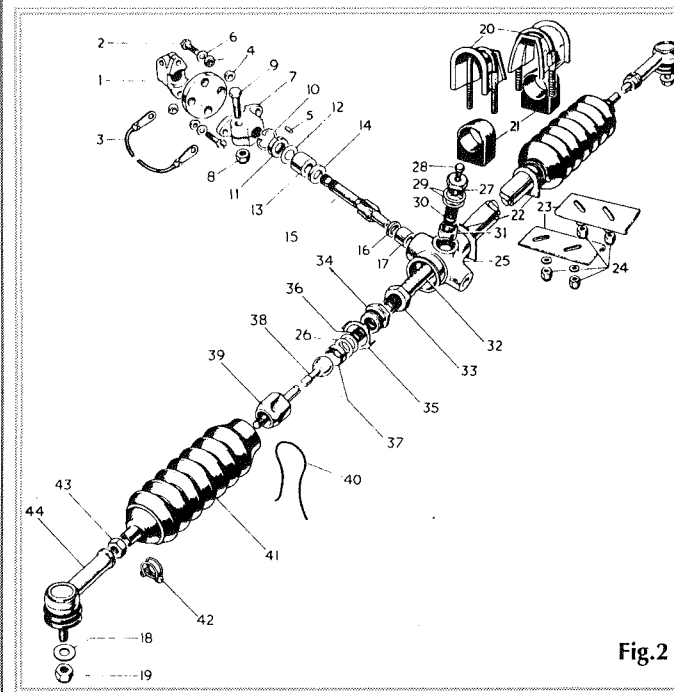

Fig.2
Now to the rack which runs horizontally across the front of the car just behind and below the radiator. The components are shown in Figure 2. The first check is to see that it is securely clamped. The fixing nuts (24) are underneath, between the two main chassis rails and secure the U bolts and rubber bushes (20 & 21). These should be tightened to 14-16 lb.ft (locknuts are essential here, too) and the adjustable plates (23) should be as far as they can go towards the centre line of the car. If the rack can still be moved in any direction it is probably because the rubber bushes (21) are past their best and should be replaced as soon as possible. At either end of the rack you will find some rubber bellows (41) which should be thoroughly checked for their general condition - if they are perished and/or split they will not only let in dirt which will accelerate wear but they will also lead to an MOT failure. At this point, while the wheels are still on the ground and with the bonnet open, reach in through the driver's (open) window and grab the steering wheel - if you can get an assistant to do this, so much the better. Turn the wheel left and right just a half an inch or so each way, slowly at first, and you should observe that the wheels move in sympathy and with no obvious slack in the system. If there is any slack then the system should be checked to see where the play arises - an assistant would be particularly useful here. Usually